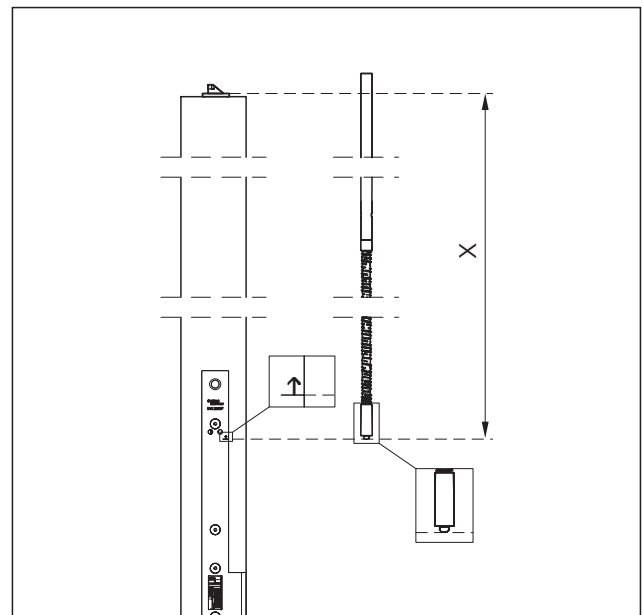

Fig. 42 Determine the length of the upper espagnolette bolt
2. Determine and mark the length of the upper espagnolette bolt (Abb. 42).